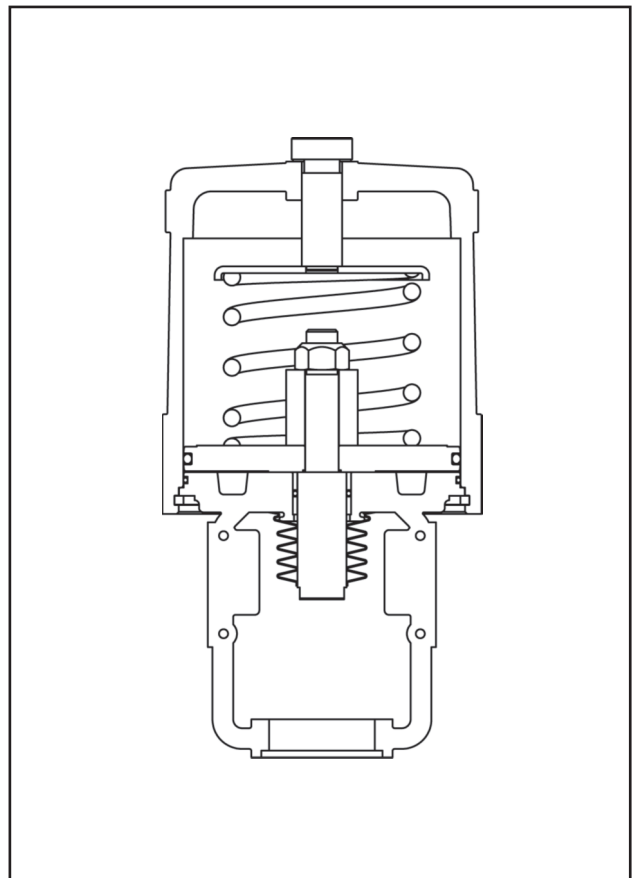

Figure 7 - Air-to-Open Configuration
- ▷ In the "air-to-open" configuration, remove the spring(s) and the spring button for cleaning and inspection (see Fig. 7). Remove the locknut and slide the piston and the stem spacer out from the actuator stem. On actuators with dual springs the spring guide must be removed also.